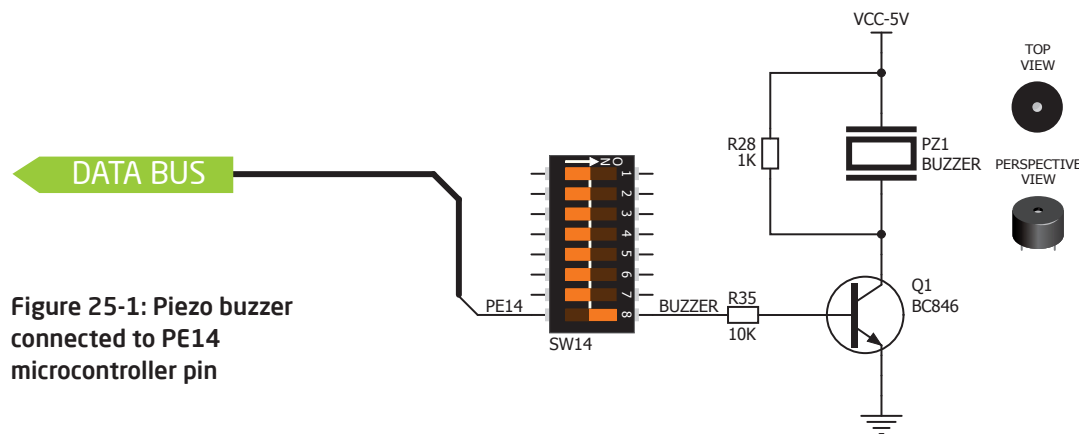

Figure 25-1: Piezo buzzer connected to PE14 microcontroller pin
**Piezo electricity** is the charge which accumulates in certain solid materials in response to mechanical pressure, but also providing the charge to the piezo electric material causes it to physically deform. One of the most widely used applications of piezo electricity is the production of sound generators, called piezo buzzers. **Piezo buzzer** is an electric component that comes in different shapes and sizes, which can be used to create sound waves when provided with analog electrical signal. EasyMx PRO™ v7 for STM32 comes with piezo buzzer which can be connected to **PE14** microcontroller pin. Connection is established using **SW14.8** DIP switch. Buzzer is driven by transistor **Q1 (Figure 25-1)**. Microcontrollers can create sound by generating a PWM (Pulse Width Modulated) signal – a **square wave** signal, which is nothing more than a sequence of logic zeros and